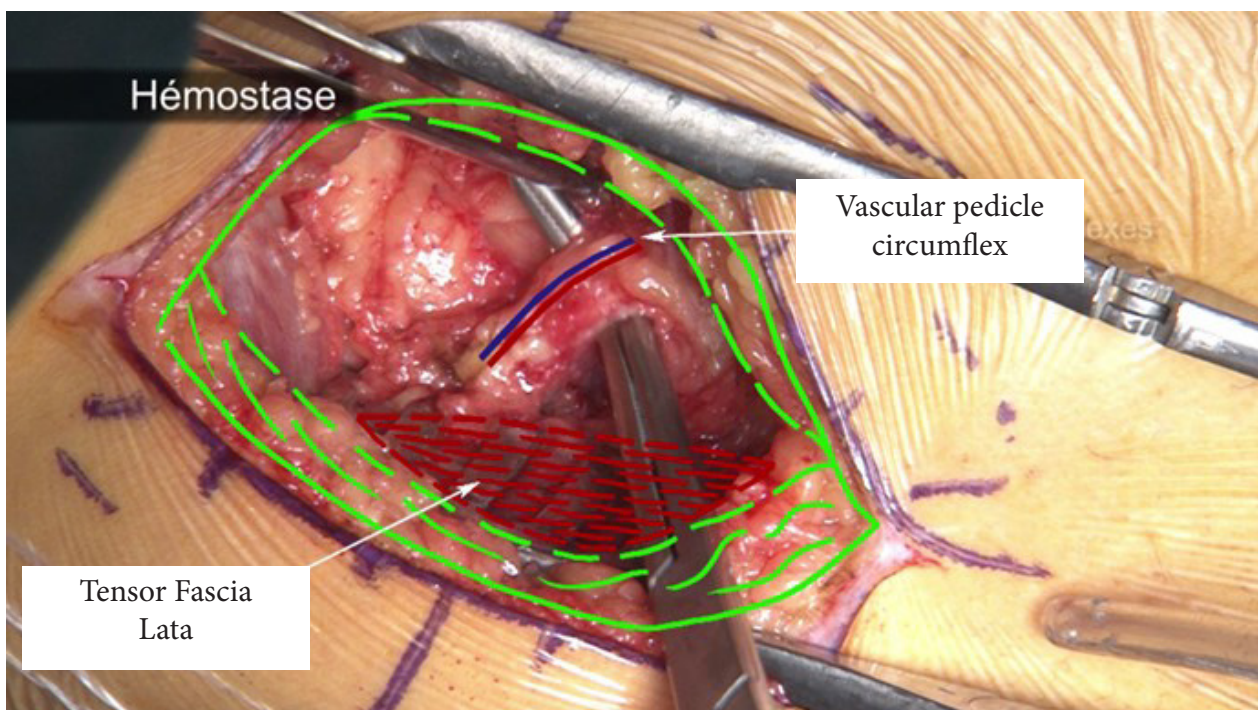

figure 8
- Access to the anterior circumflex vessels pedicle is obtained. Hemostasis is then carefully performed (Figure 8).